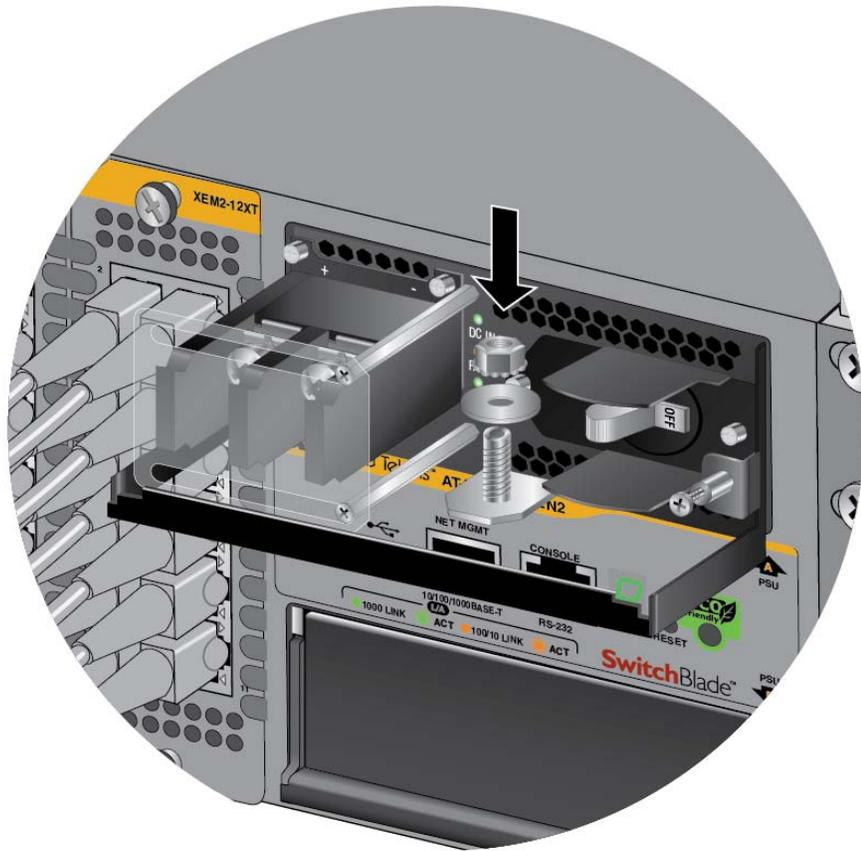

Figure 119. Reinstalling the Nut and Washer on the Grounding Post
10. Reinstall the nut and washer on the grounding post. Refer to Figure 119 on page 198.